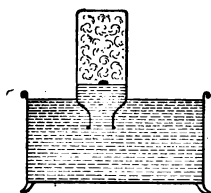

Fig. 4.
(A) 1. Pin a small piece of phosphorus to the piece of charcoal and float this on the water in the large jar (Fig. 4). Light the phosphorus with a hot glass rod and then quickly cover it with the inverted wide-mouthed bottle, keeping the rim of the latter about an inch below the surface of the water.